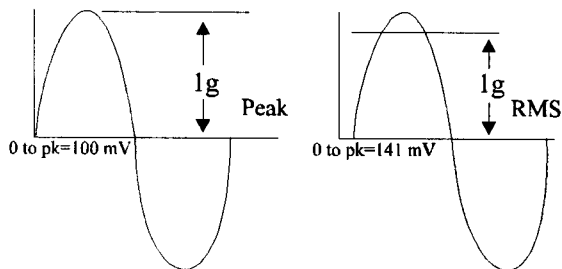

Figure 3. Peak vs. RMS Selection with 100 mV/g Accelerometer
- **Peak / RMS selection.** If a 100 mV/g sensor is on the shaker table, and the unit is in peak mode, then the output is 100 mV. If the switch is set to RMS, then the output is 141 mV. See Figure 3.